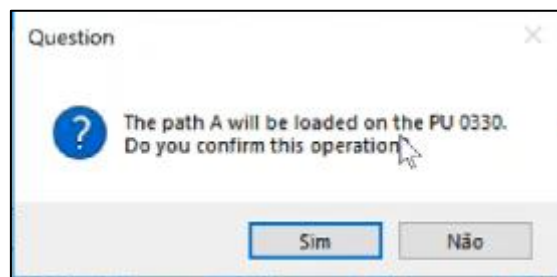

Fig. 246 - Confirmation message to exportation
5. After that, clicks on RFID () button and it will pop up a window asking if he wants to load the path to the PU (Fig. 246);